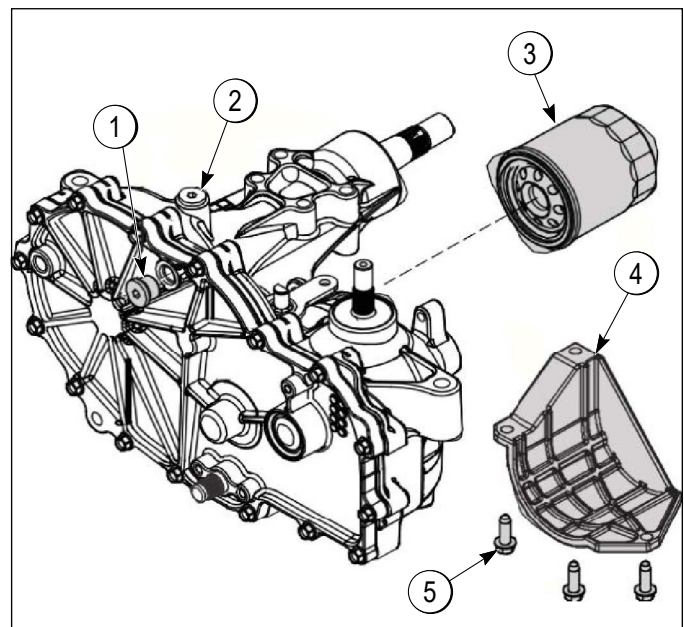
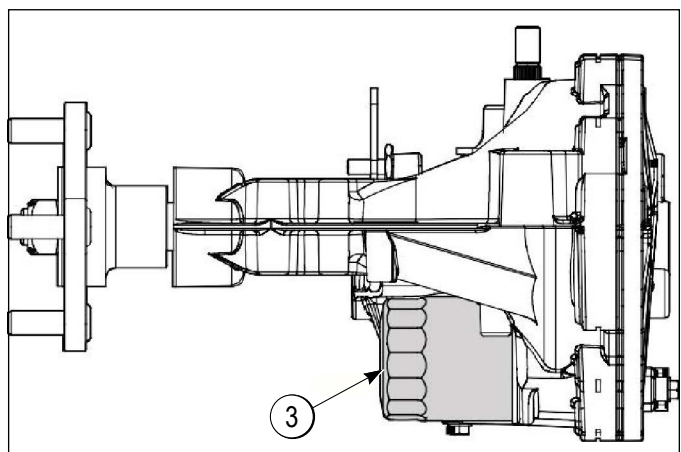

Figure 6-1
Figure 6-2
2. Remove the three 1/4 in filter guard screws (5) and filter guard (4). Clean any loose debris from around the perimeter of the filter. See Figure 6-1 and Figure 6-2.
6. Install the filter guard (4) with three 1/4 in screws (5). Torque screws to 65 in-lb (7.3 N•m) each.
9. Remove the top port plug (1) from the left side and right side transaxles prior to filling with oil. This will allow the transaxles to vent during oil fill.
NOTE: For units that do not have an external expansion tank, remove the fill port plug (2) on the top of the housing. See Figure 6-1.
11. Fill with 20W-50 motor oil until oil just appears at the bottom of each transaxle top port plug (1) (approximately 2 qt. per transaxle, 4 qt. total). Install the top port plug (1) into each transaxle as the oil level reaches this port.
NOTE: For units that do not have an external expansion tank, replace the fill port plug (2) on the top of the housing (see Figure 6-1), torque to 120 in-lb (20.3 N•m), and proceed to the purge procedure.